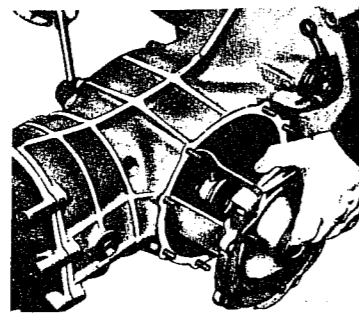

Fig. E.7. Removing the left-hand cover and spindle.
3. Remove the cover. This is not easy unless the proper extractor is used (Fig. E 7), but it can be carefully tapped off.